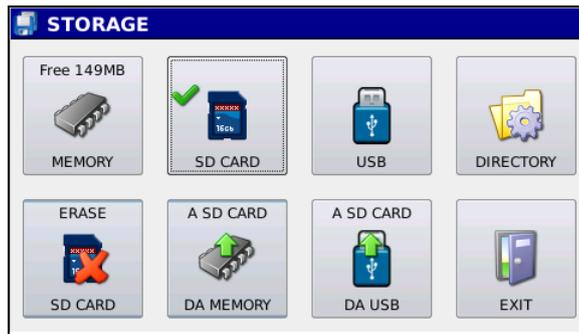

Fig. 4.5: Storage screen after selection of the μ SDcard as working memory.
4.2 Press  to select μ SDcard as default memory. If the card is not present, the message μ SDcard NOT PRESENT will appear. If the memory card is properly installed, the screen will appear as in Fig. 4.5,